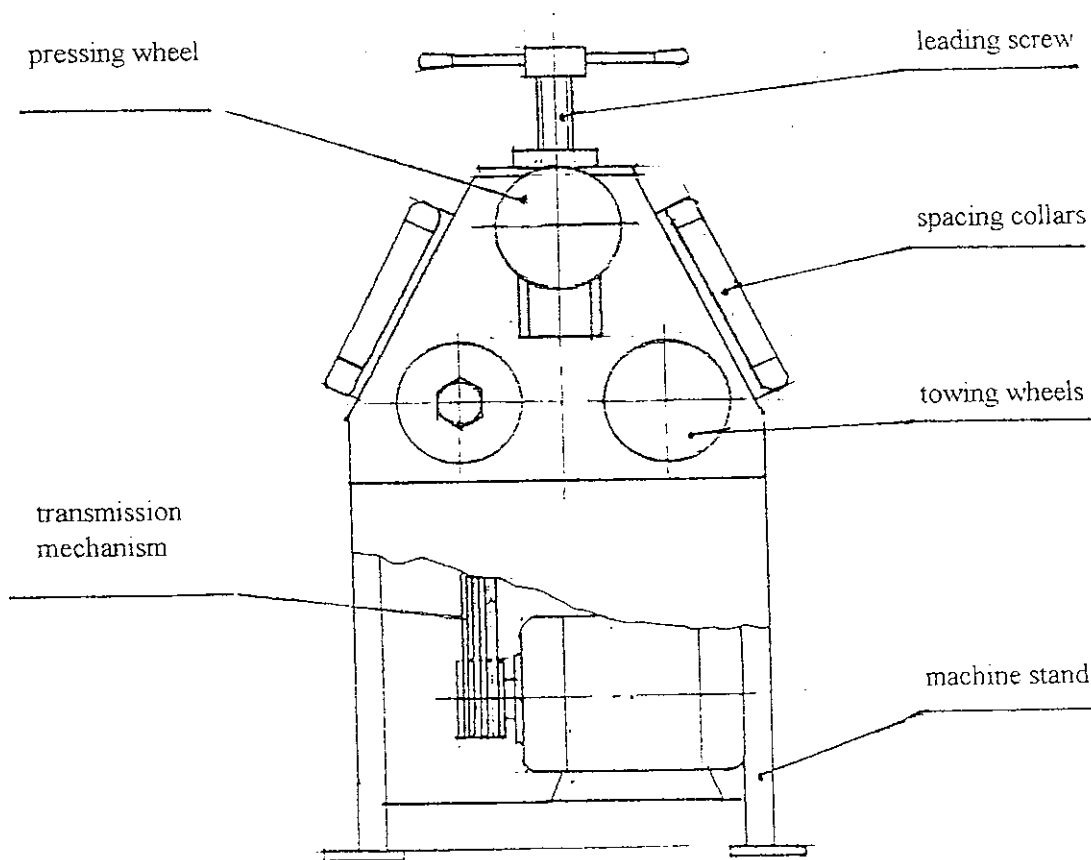

Figure 3 : structure sketch
- (1). Machine stand : it is fitted up with angle steel and steel plate welded together ; on the right side of it there fixed an electric switch (see Figure 3).
- (2). Transmission mechanism : it is composed of one motor , Group A triangle belt , Group A worm gear and worm , and a Group A gear wheel .
- (3). Working installation : it is made of two towing wheels , one pressing wheel and two spacing collars .
- (4). Operation installation : it concludes two things: one is the package of leading screw and slide block which controls the pressing wheel's up-and-down movement ; the other is a pedal electric switch which controls the directions the towing wheels turn .